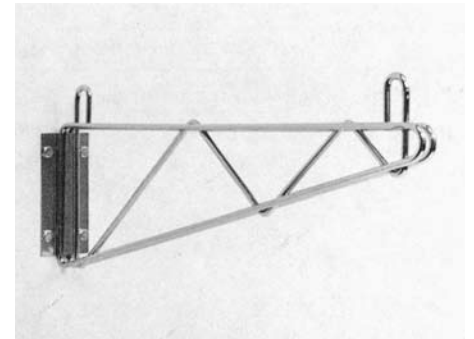
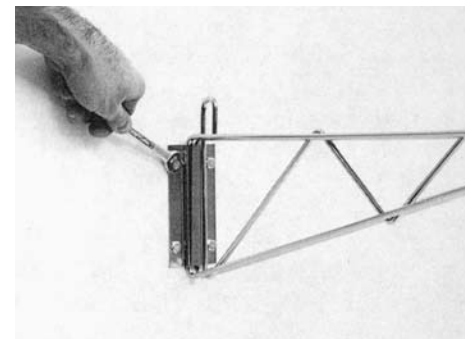

Fig. 2
Fig. 3
5. Mount the shelf support to the previously prepared mounting holes, using the proper hardware (see Note 1) (Fig. 2 and Fig. 3). Partially tighten each of the four fasteners for each mounting plate before fully tightening any one fastener. There will be an approximate $\frac{1}{16}$ " gap between the mounting plate and the wall. The mounting plate is intentionally undersized to create this gap which provides a gripping action between the wires to the shelf support, the mounting plate and the wall.